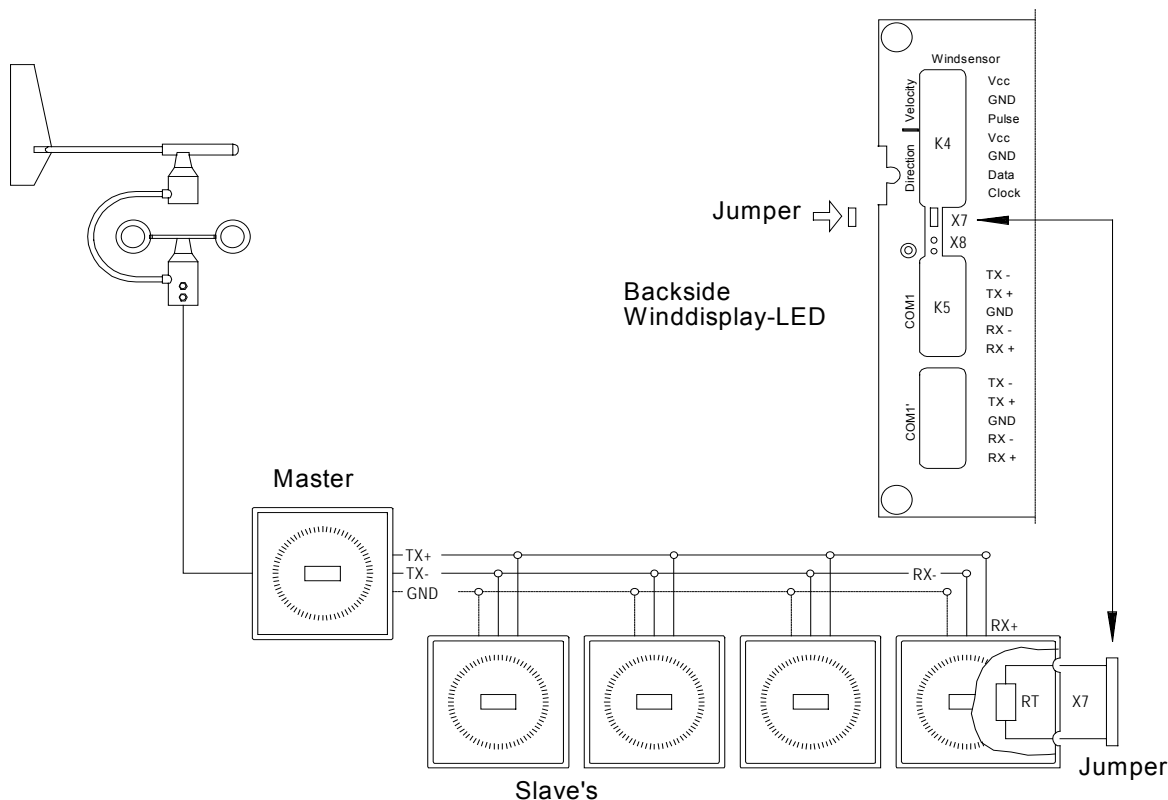

Figure 4: Example for connection
For termination using long cables the rear of the wind display is equipped with contact pins X7, which can be bridged from outside using a jumper if required (ref. figure 4).
- When a jumper (X7) is inserted at the receiver (Slave) the integrated termination resistor (RT=200 Ω) is activated (ref. figure 4).